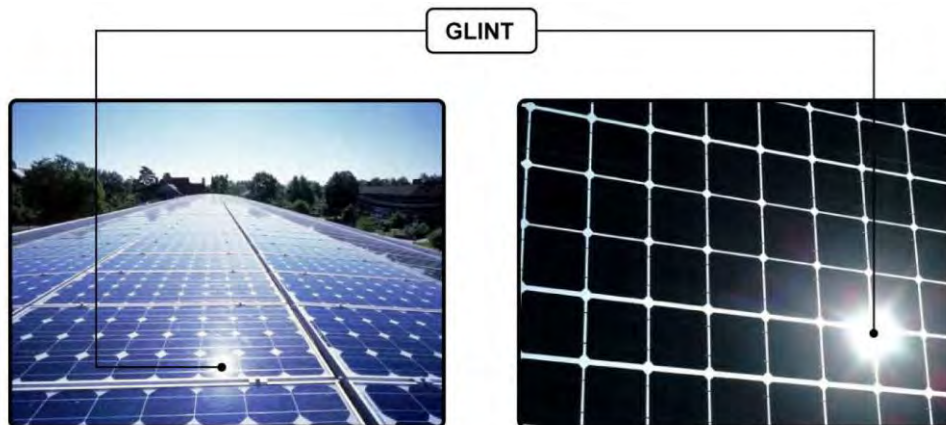

Figure 1
- Glint – Also known as a specular reflection, produced as a direct reflection of the sun in the surface of the PV solar panel. This is the potential source of the visual issues regarding viewer distraction (Figure 1).
Figures 1 and 2 show the two different types of reflection on solar panels. In this document hereafter, these will be combined in the term “reflection”.
Reflection means, throwing rays or waves back from an object. In this specific case sun rays are reflected by the modules surface. This can lead to the demonstrated Effect shown in Figure 1 and 2.